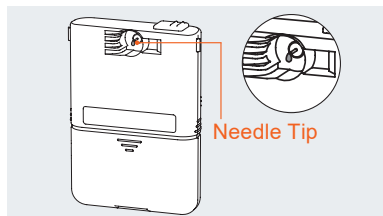
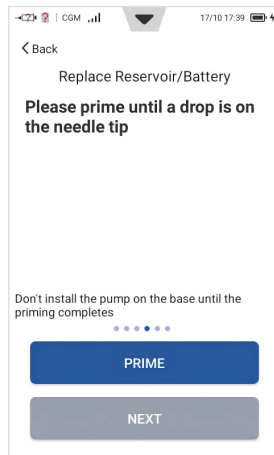
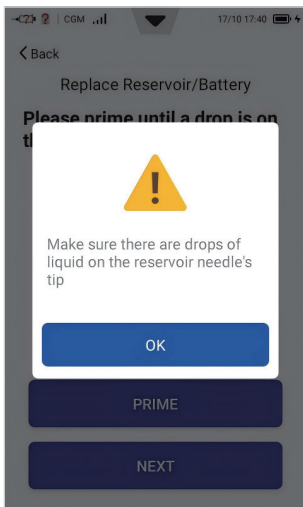

Figure 54
Figure 55
Figure 56
3. Holding the pump in the orientation shown in Figure 54, press "PRIME" (Figure 55). The plunger will begin to move slowly. Continue to press the button until a confirmation window appears as shown in Figure 56 and you see a drop of insulin on the needle tip (Figure 54). Press "OK" and the background of the "NEXT" button will be enabled when it changes from grey to blue. Press "NEXT" to go to the next step.